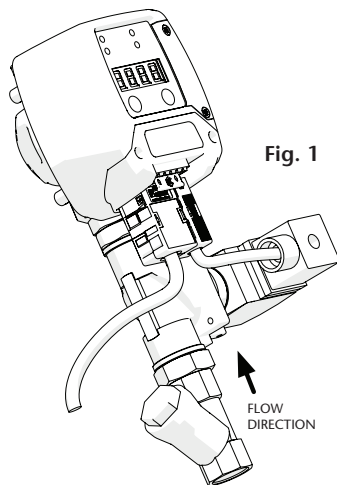

Fig. 1
### CONNECTION TO HYDRAULIC SYSTEM (FIG. 1)
- In figure 1 a typical installation is shown, which may vary according to particular cases.